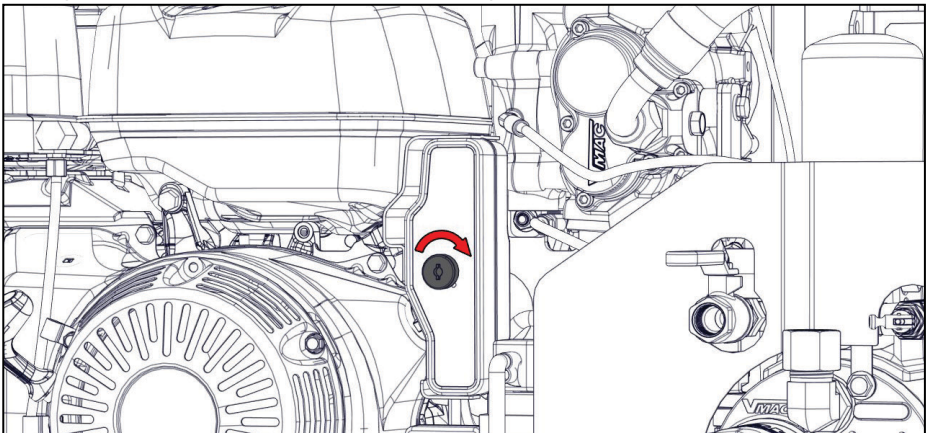

Figure 17 — Key switch
6) Turn the ignition key switch to the "START" position and hold it there until the engine starts (maximum of 5 seconds) (Figure 17).